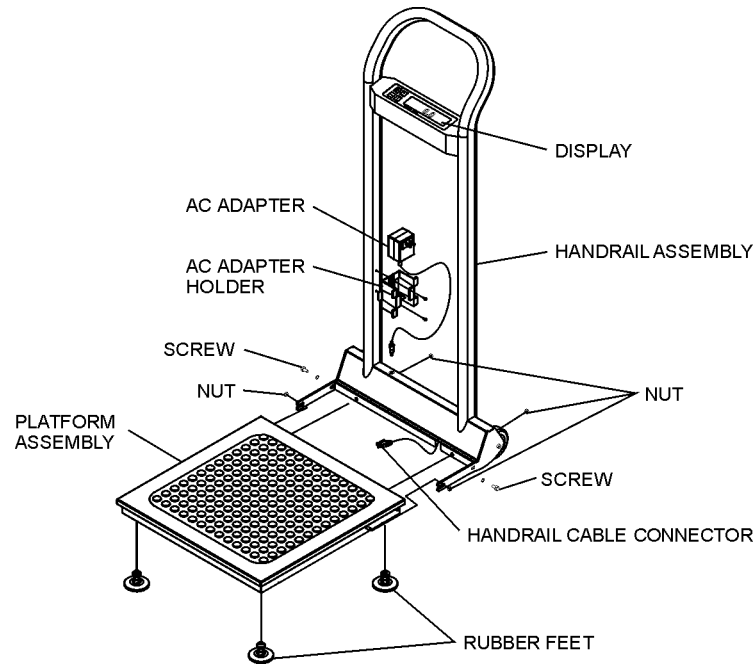

Figure 1. Assembly After Shipment
4. Hold the handrail assembly perpendicular to the platform assembly, as shown in Figure 1.